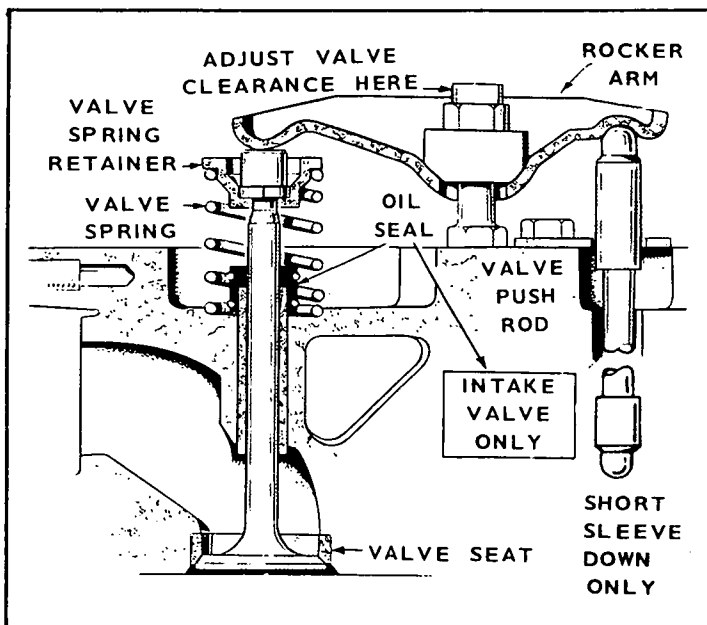

FIGURE 22. VALVE AND PUSH ROD
3. To change the setting of valve clearance, adjust the lock nut which secures the rocker arm to the cylinder head (see Figure 22). Loosen the lock nut to increase clearance and tighten it to reduce clearance.